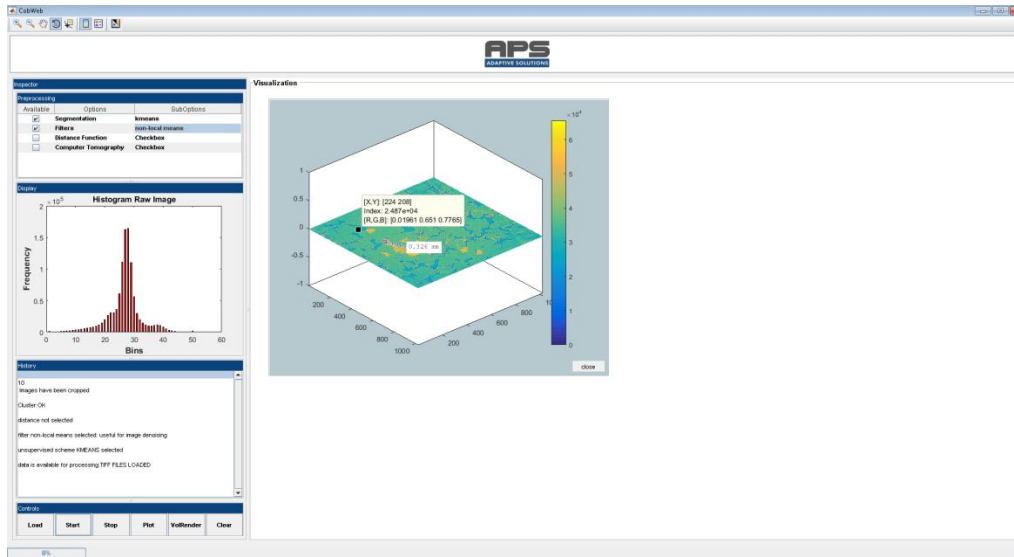

Figure 24: Image inspection
- Doing so breaks the processing chain and thus the image characteristics can be inspected using toolbar options as shown in Figure 24.